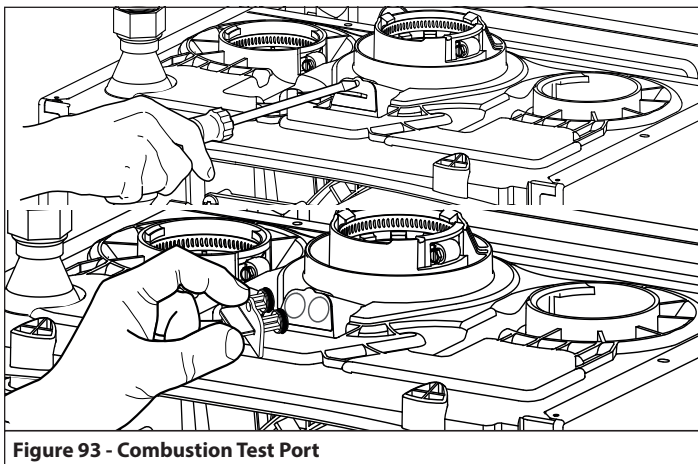

Figure 93 - Combustion Test Port
5. Reinstall the combustion test port - see Figure 93.